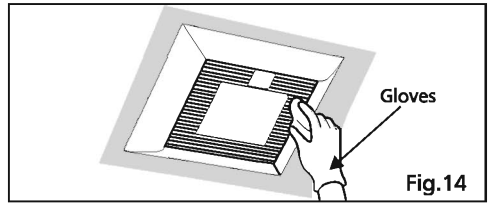

Fig. 14
1. Clean grille. (Don't put into hot water. Use non-abrasive kitchen detergent, wipe dry with clean cloth)(Fig. 14)